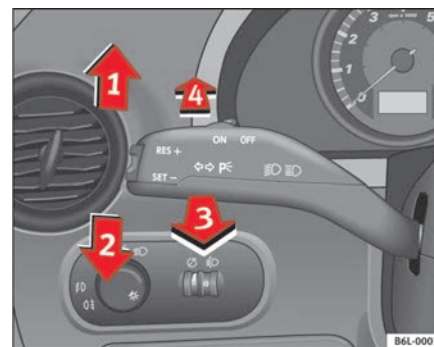

Fig. 61 Turn signal and main beam headlight lever
- Move the lever all the way up \Rightarrow fig. 61 ① to indicate **right**, and all the way down ② to indicate **left**.
- Press the lever forward \Rightarrow page 93, fig. 61  to switch on the main beams.